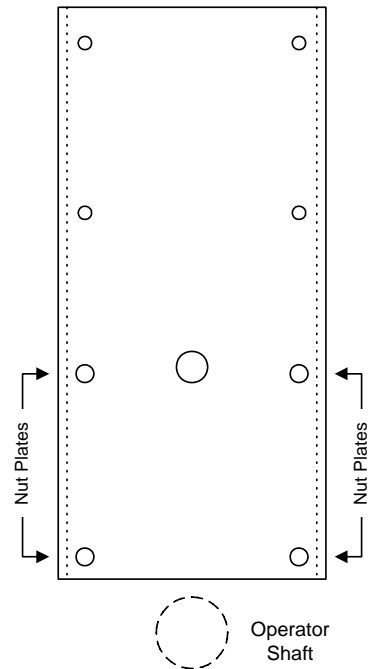

Figure 13
2. Gently place the operator on the pad mounting assembly being sure to align all 4 nut plates and the 4 mounting bolts (Figure 13).